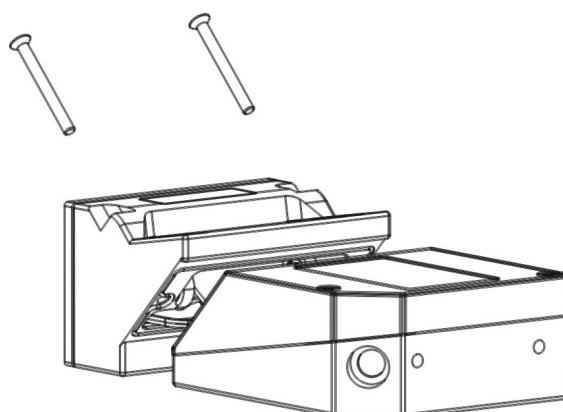

Figure 4
- 4) Check that the seal is correctly positioned and then after having aligned the OM2000 onto the scanner, fix it using the two screws supplied (see Figure 4).